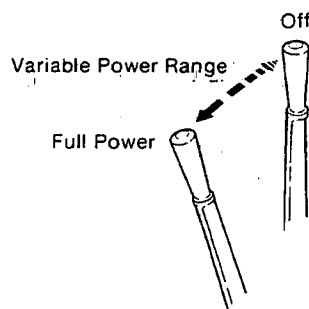

Figure 4 Hoist Converter Manual Control
61. Hoist Converter Manual Control (Figure 4) —